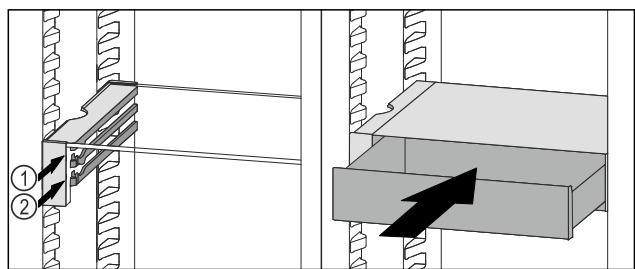

Fig. 90
- ▶ Place the VarioSafe drawer behind the stoppers on desired rib Fig. 90 (1) or Fig. 90 (2).